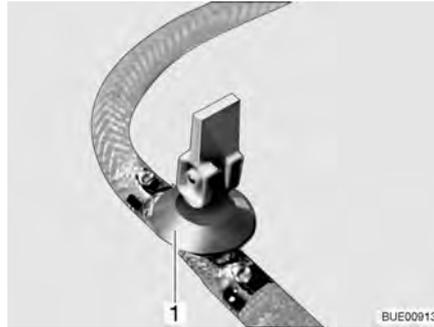
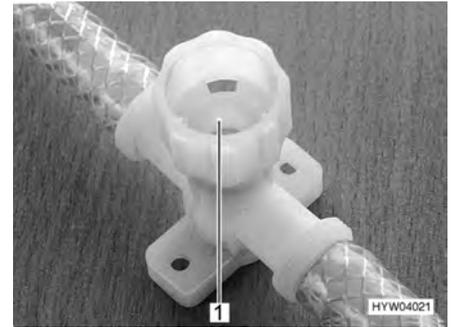

Fig. 159 Drain cock (with rocking lever)
Fig. 160 Drain cock (with twist cap)
- Close all drain cocks. To do this, position the drain cock's rocking lever (Fig. 159,1) horizontally or turn the drain cock's cap (Fig. 160,1) in a clockwise direction.